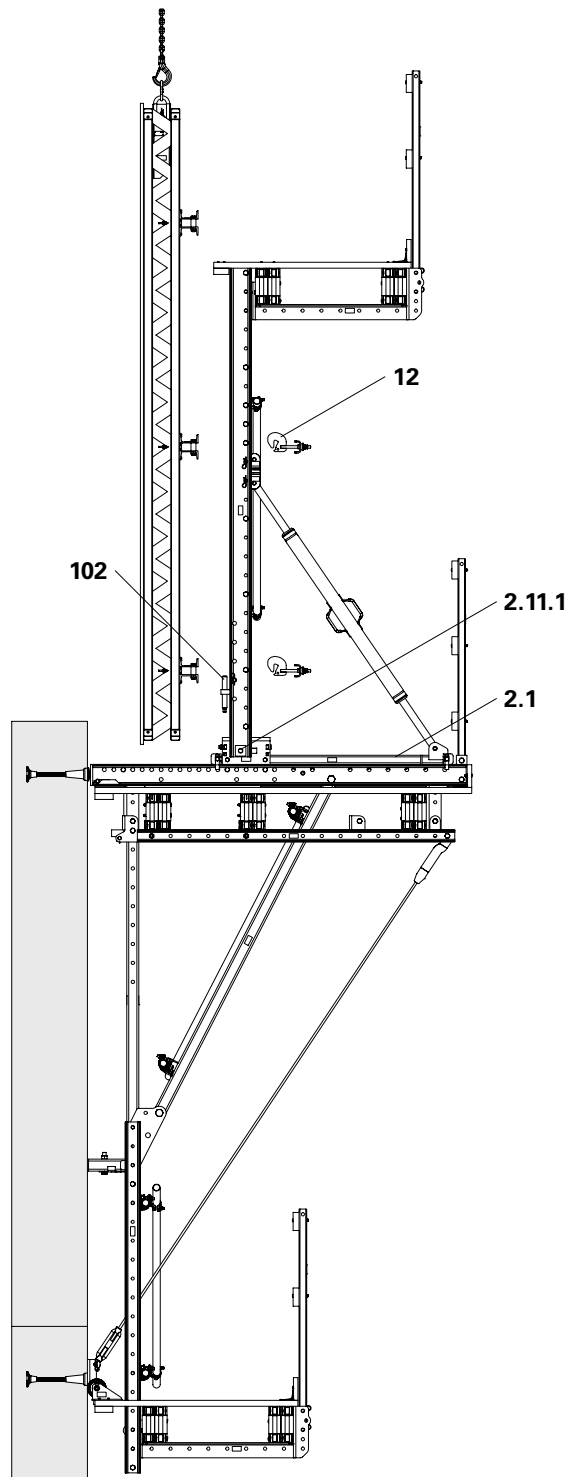

Fig. B3.07
9. Align formwork (see Section B4). (Fig. B3.07)